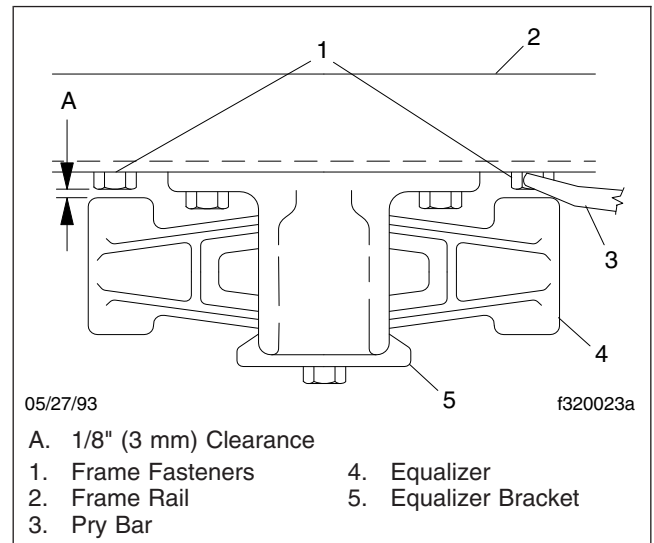

Fig. 5, Top View of the Equalizer
7. With the vehicle unloaded, attempt to move the equalizer side to side, using a pry bar between the equalizer and frame rail. Apply hand pressure only. See Fig. 5. If clearance between the equalizer assembly and any frame component or fastener is less than 1/8 inch (3 mm), replace the equalizer bushings. See **Group 32** of the *122SD and Coronado Workshop Manual* for instructions.